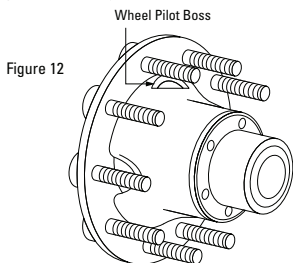

Figure 12
8.) Before installation of the brake drums and wheels that utilize the hub piloted system, rotate the hub so one of the wheel pilot bosses is at the top (12 o'clock position) (see Figure 12).